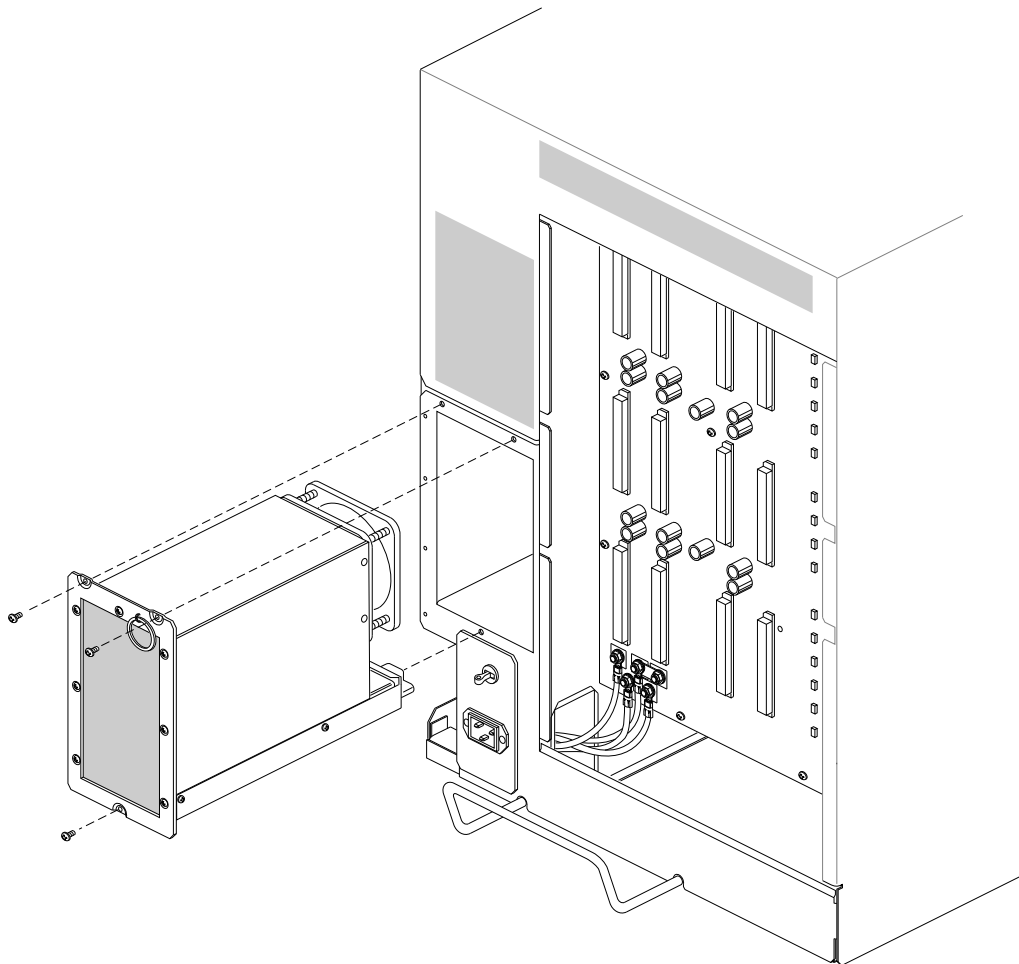

Figure 5-81 Replacing the Power Supply Assembly
3. Remove the three screws that hold the OLS to the chassis (see Figure 5-81).
4. Pull out the OLS using the ring (see Figure 5-81).